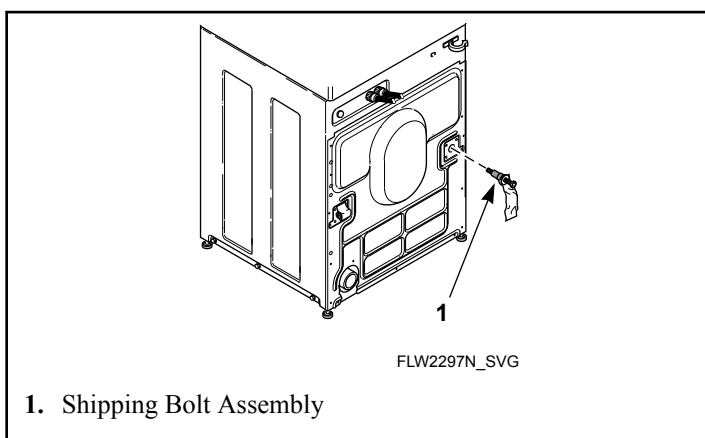

Figure 50
7. Insert shipping bolt assemblies into each shipping bolt hole. Refer to *Figure 50*.